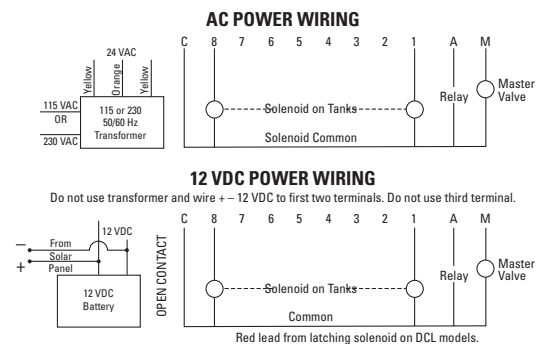

FIGURE 10 - Backflush controller wiring
- M is master valve - used with Pressure Sustaining Normally Open or Electric valves to control the downstream flow. See Figure 10.